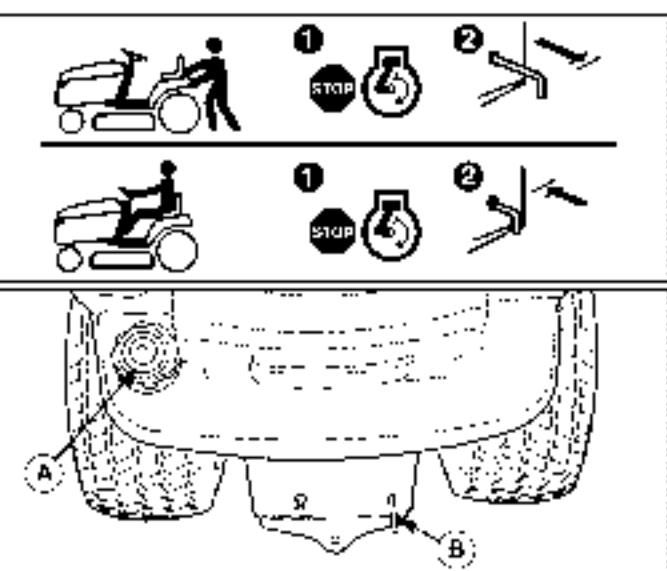

Figure 5. Transmission Release Lever & Fuel Tank
1. Remove the fuel cap (A, Figure 5).
2. Pull the transmission release (D, Figure 5) back approximately 2-3/8" (6 cm) to lock into released position.